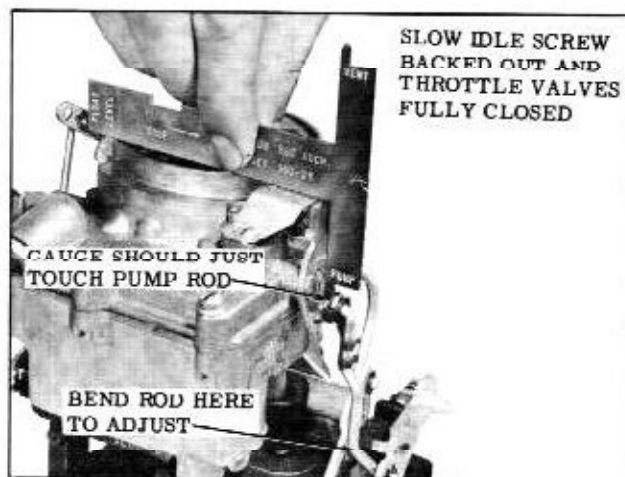

Fig. 8-150 Pump Rod Adjustment
1. Using Gauge Set 100-31 (1-7/16") check the distance from the top of the air cleaner mounting ring to the top of the pump rod. The leg of the gauge marked "Pump" should just touch the top of the pump rod. (Fig. 8-150)